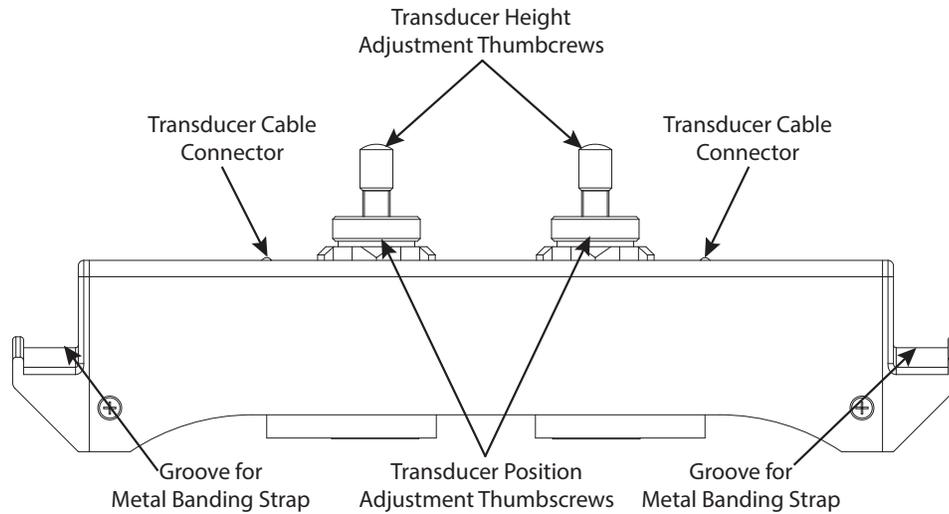

Figure 7: Easy rail side view
5. Place the mounting rail on the pipe and fasten it with metal banding straps. See Figure 7.